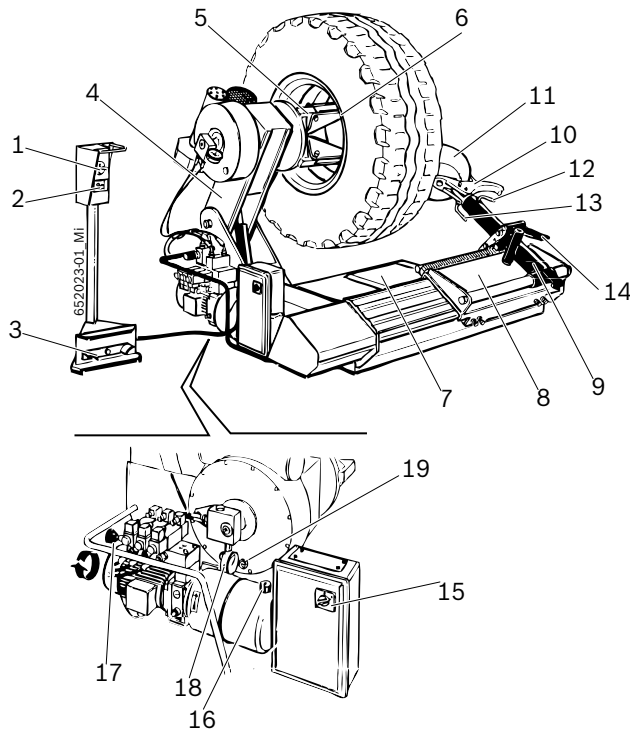

Fig. 1: JUMBO TCS26
The locking flange is driven by the high pressure hydraulic circuit, adjustable from 20 to 130 bar by turning the dedicated knob (Fig. 1, pos. 17) and reading the value on the manometer (Fig. 1, pos. 18). The normal working pressure is 130 bar. For weak or particularly thin rims it is necessary to decrease this pressure.
For wheels having a diameter of less than 800 mm or more than 1500 mm, it is suggested to take off the mounting tool pin (Fig. 1, pos. 12) and put it in the second hole.